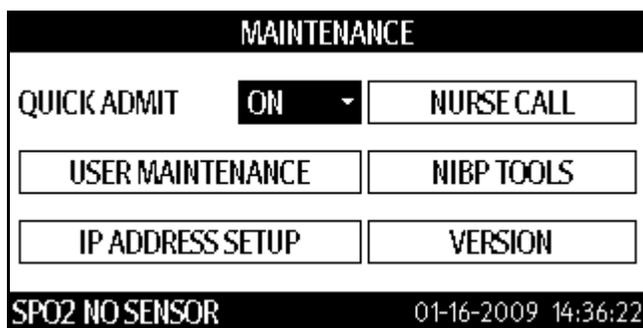

FIGURE 6-19 MAINTENANCE dialog
1. In the **MAINTENANCE** dialog (see FIGURE 6-19), check the installed software version and compare it with the currently released version to determine if an upgrade is needed.